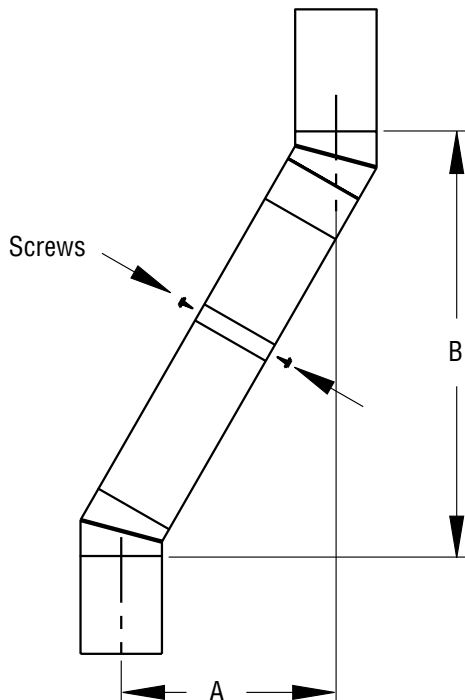

Figure 10 - Elbow Offset
Continue to assemble chimney sections as outlined above, making sure that both the inner and outer pipe sections are locked together. When installing double wall snap-lock chimney together, it is important to assure the joint between the chimney sections is locked. Check by pulling chimney upward after locking. The chimney will not come apart if properly locked. It is not necessary to add screws to keep the chimney together (exception, see Figure 10, page 10).
- To achieve desired offset, you may install combinations of 12", 18", 24", 36" and 48" length of double wall pipe (see offset chart and Figure 10).
- All pipe connections between the offset and return must be secured with two screws on the outer pipe only (see Figure 10). Do not penetrate the inner stainless.
- One (1) 6" pipe section adapter (included with offset elbow F5169 and F5170) must be installed prior to return elbow any time a pipe section is installed between offset and return elbows.